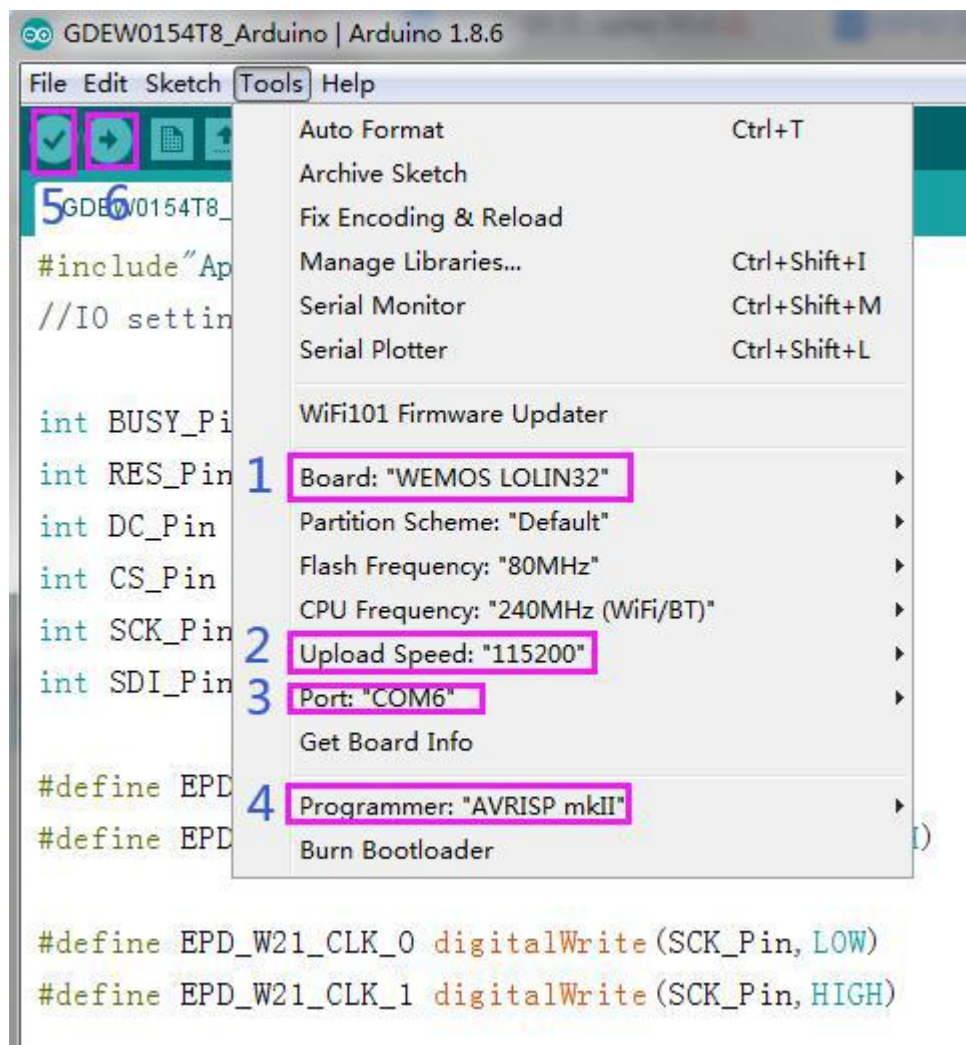

Figure 7 : Steps of downloading program
4. Configure in "Tools" in Figure 7.
5. Select development board model "WEMOS LOLIN32" in position 1 of Figure 7.
6. Select upload speed "115200" in position 2 of Figure 7.
7. Select COM port in position 3 of Figure 7.
8. Select programmer model "AVRISP MKII" in position 4 of Figure 7.
9. Click position 5  of Figure 7 to compile the program.
10. Click position 6  of Figure 7 to download the program to development board.